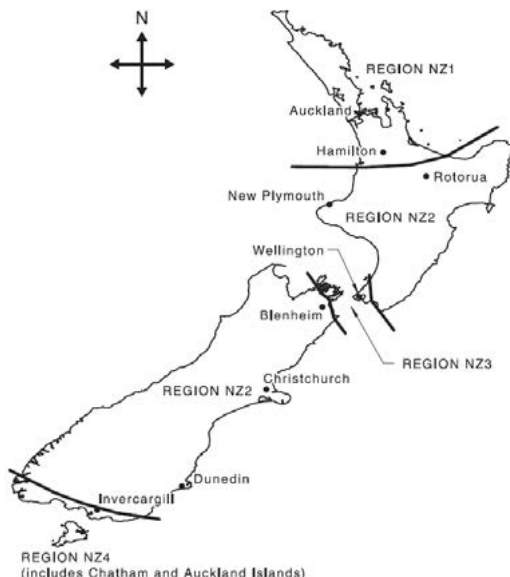

Figure 3.1(B) — Wind regions — New Zealand
Note 8 Wind regions are shown in Figure 3.1(B) of AS/NZS 1170.2:2021.